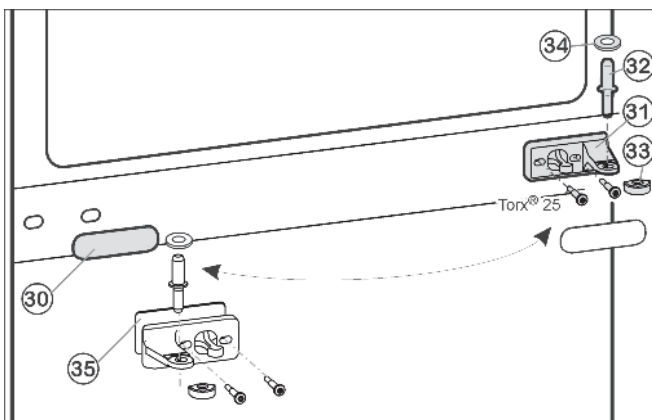
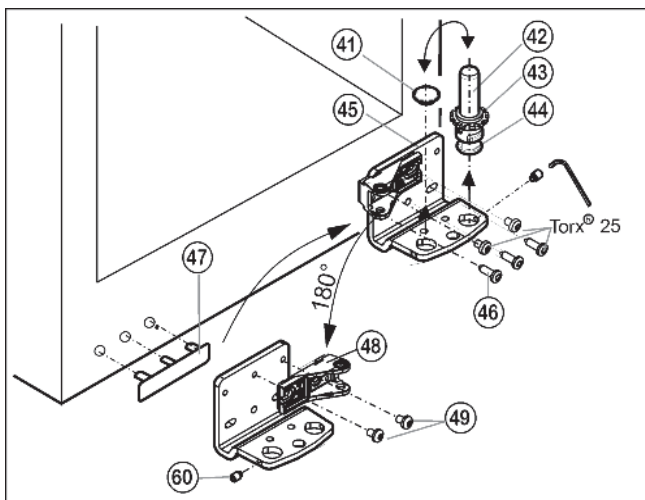

Fig. 12
Fig. 13
- ▶ Pull center bearing pin *Fig. 12 (32)* and disc *Fig. 12 (34)* out of the bearing bracket and the lower door.
- ▶ Remove plastic cap *Fig. 12 (33)*.
- ▶ Unscrew center bearing bracket *Fig. 12 (31)* (2 x Torx® 25).
- ▶ Carefully remove cover trim *Fig. 12 (30)*.
- ▶ Turn the center bearing bracket *Fig. 12 (31)* and washer *Fig. 12 (35)* 180° and secure **tightly (to 4 Nm)** on the new hinge side.
- ▶ Turn the cover trim *Fig. 12 (30)* 180° and snap it back into place on the new handle side.
- ▶ Unscrew grub screw *Fig. 13 (60)* by approx. 1 turn using the socket wrench supplied.
- ▶ Unscrew the bearing pin *Fig. 13 (42)*, with disc *Fig. 13 (43)* and positioning foot *Fig. 13 (44)*, in an upwards direction.
- ▶ Lift off plug *Fig. 13 (41)*.
- ▶ Unscrew *Fig. 13 (46)* bearing bracket *Fig. 13 (45)*.
- ▶ Completely unscrew the grub screw *Fig. 13 (60)* and screw it into the opposite side of the bearing bracket until it is externally flush with the bearing bracket.
- ▶ Unscrew bearing part *Fig. 13 (48)*, turn it 180° and tighten *Fig. 13 (49)* it to the inside.
- ▶ Insert plug *Fig. 13 (41)* back into the other hole.
- ▶ Carefully lift off the cover on the handle side *Fig. 13 (47)* and move it to the opposite side.
- ▶ Using a cordless screwdriver if necessary, again secure the bearing bracket *Fig. 13 (45)* on the new hinge side **tightly (to 4 Nm)**.
- ▶ Screw complete bearing pin *Fig. 13 (42)*, with disc and positioning foot, back into place again.
- ▶ Tighten grub screw *Fig. 13 (60)*.
- ▶ Position the lower door from above onto the lower bearing pins *Fig. 13 (42)*.
- ▶ Place the plastic cap *Fig. 12 (33)* back onto the center bearing bracket *Fig. 12 (31)*.
- ▶ Insert the center bearing pin *Fig. 12 (32)* on the new hinge side through the center bearing bracket *Fig. 12 (31)* into the lower door.
- ▶ Place disc *Fig. 12 (34)* onto the center bearing pin *Fig. 12 (32)*.
- ▶ Place the upper door onto the center bearing pin Fig. 12 (32).
- ▶ Align the doors flush with the appliance housing, using the two oblong holes in the lower bearing bracket *Fig. 13 (45)* and in the center bearing bracket *Fig. 12 (31)* as a guide, if needed. To do so, unscrew the center screw on the lower bearing bracket *Fig. 13 (45)*.